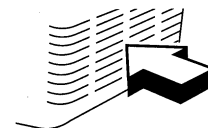

FIGURE 1
- POSITION UNIT TO ALLOW AIRFLOW THROUGH THE FRONT GRILL (SEE FIGURE 1).